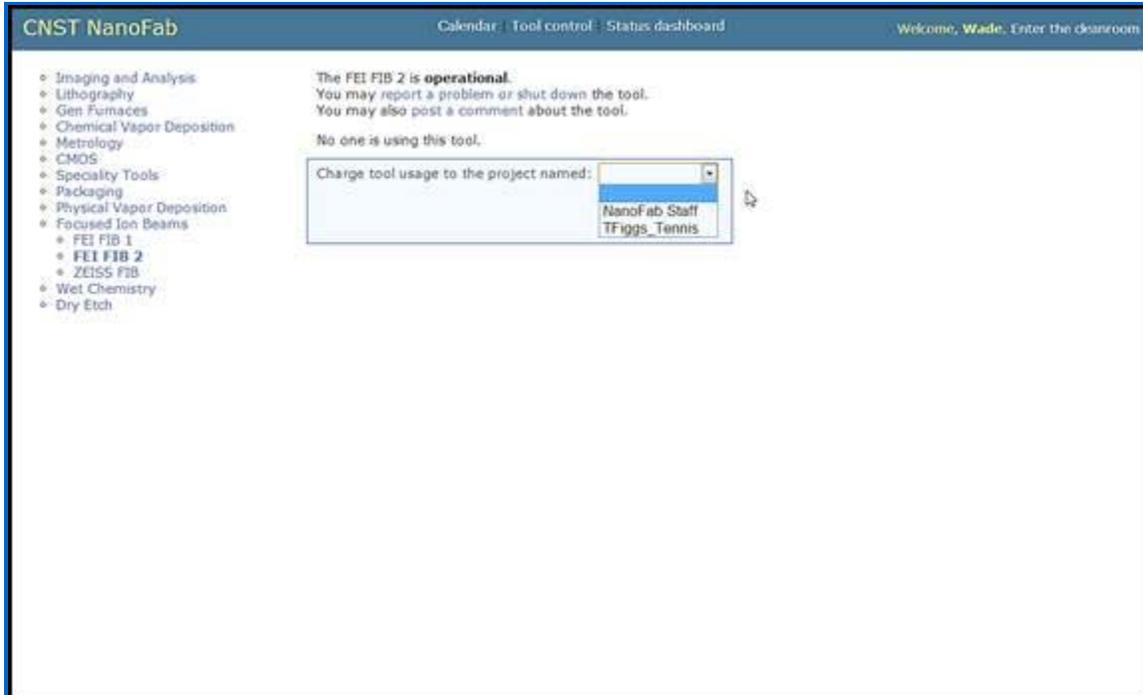

Figure 16: Choosing NanoFab project to charge tool time to (if applicable).
****NOTICE**:** If you have more than one active NanoFab project you will need to choose which project to charge your tool activity time to. If you only have one active NanoFab project it will automatically be displayed here with no choice option. Choose the NanoFab project that you want to charge the tool activity to (*if applicable*). (*Figure 16*)